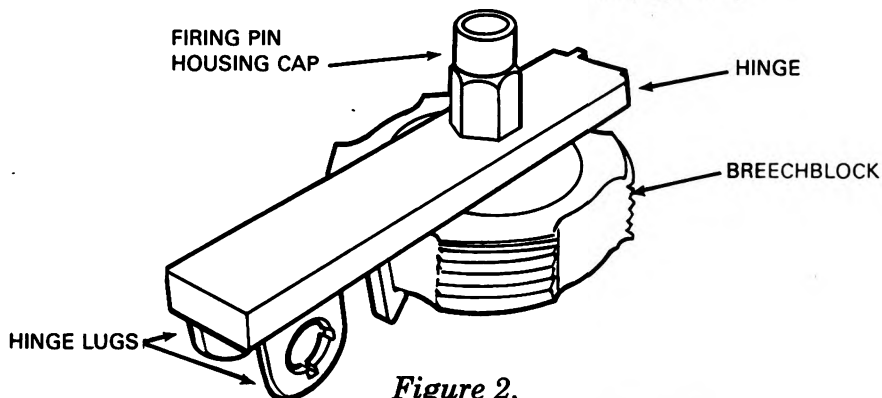

Figure 2.
(3) **Removal of breechblock and hinge assembly.** Grasp the hinge with the left hand and support the operating lever dog with one finger. Hold the firing pin housing cap with the right hand and remove the breechblock and hinge assembly. Lift out the operating lever dog and hinge roller. Place the breechblock and hinge assembly face down on a flat surface with the extractor protruding over the edge of the surface (figure 2).